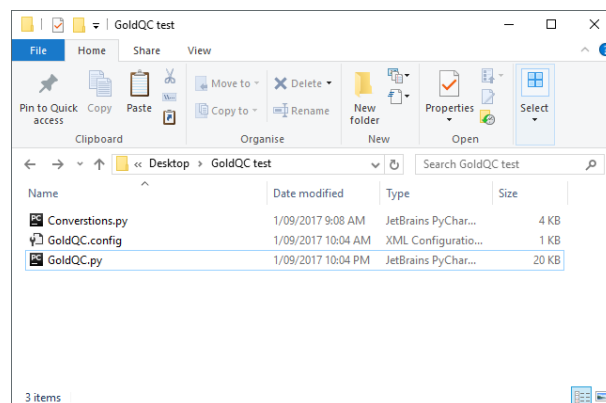

Figure 2: Testing GoldQC
1. Copy Conversions.py, GoldQC.py and GoldQC.config to a new directory on your computer, in this example I will use a folder on my Desktop called GoldQC test. Your directory should now contain three files as in figure 2.